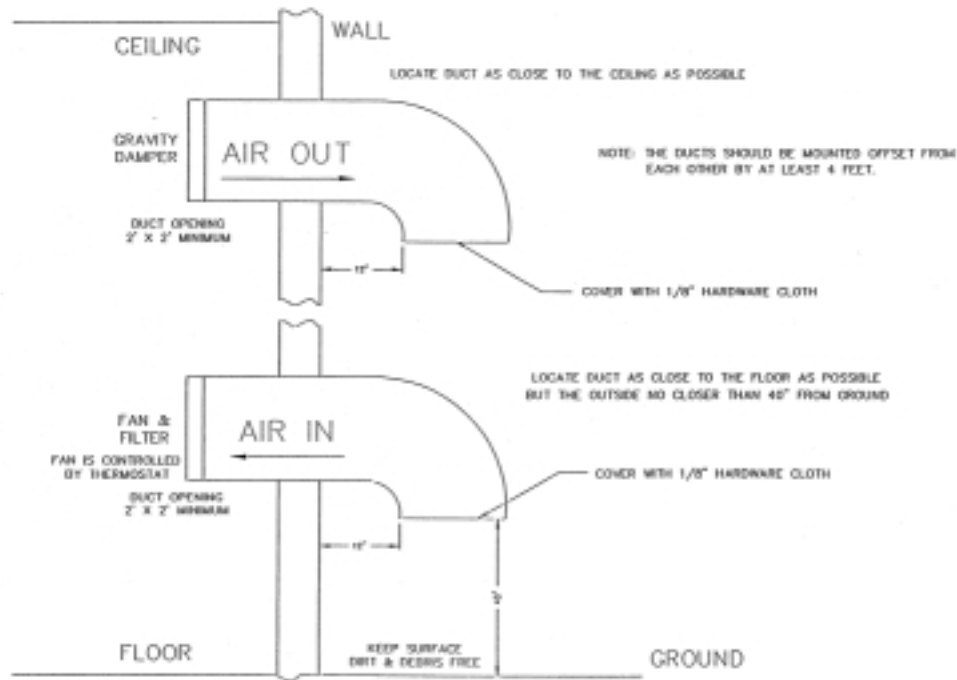

Figure 4-1. 1 kW Minimum Ventilation Configuration
- The information presented in this section is intended to serve only as a general guide and may need to be modified for unusually severe conditions. A combination of air conditioning and ventilation should not be difficult to design (see Figure 4-1). System interlocking and thermostat settings should be reviewed with ADC. As with any equipment installation, it is always good practice to consult the